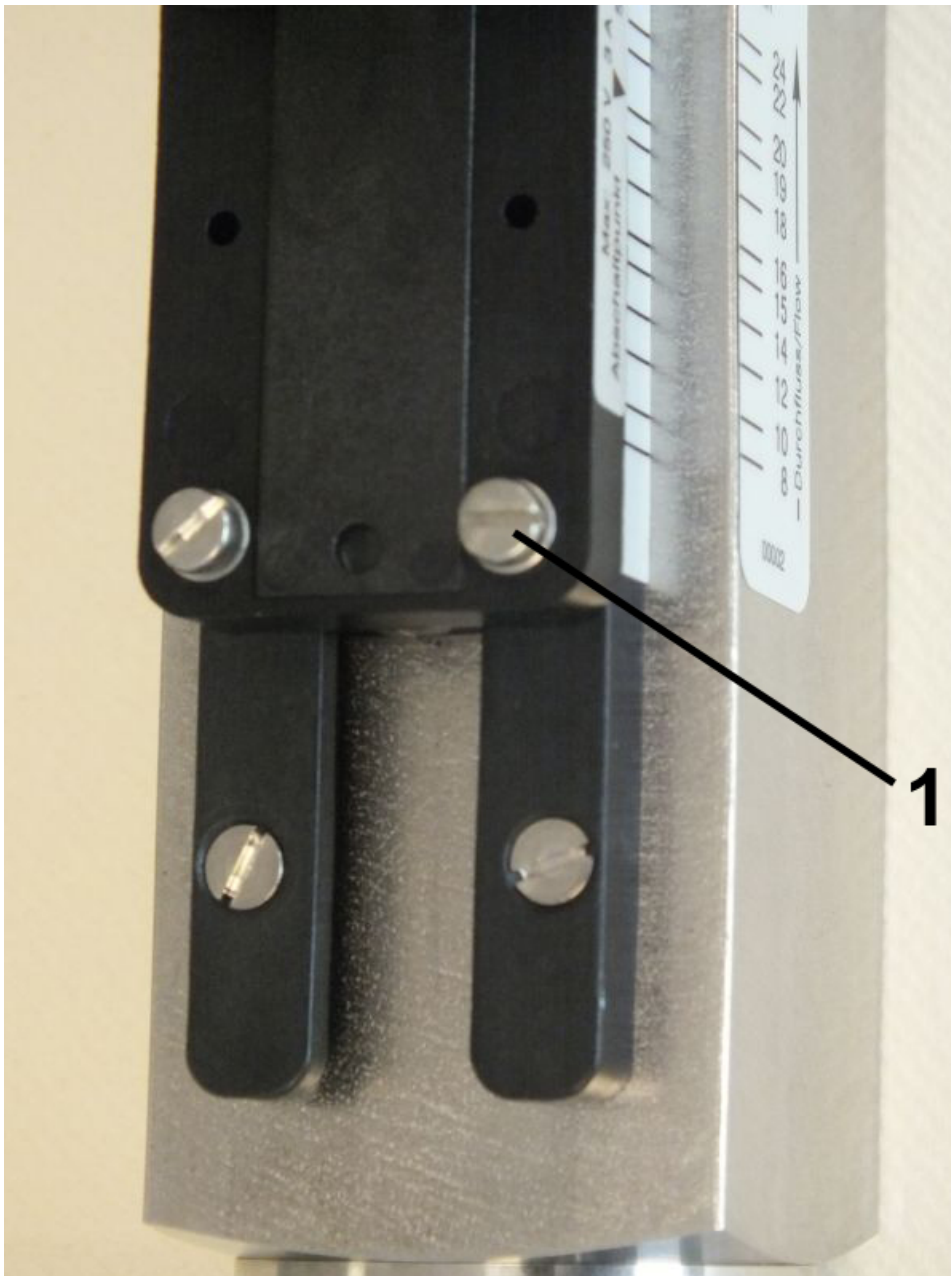

Fig. 38: Loosen set screws
1. Loosen the set screws of the switch contact (Fig. 38/1) using a flat-bladed screwdriver.
3. Tighten the set screws of the switch contact (Fig. 38/1) using a flat-bladed screwdriver. When doing so, observe the correct tightening torque of the screws.